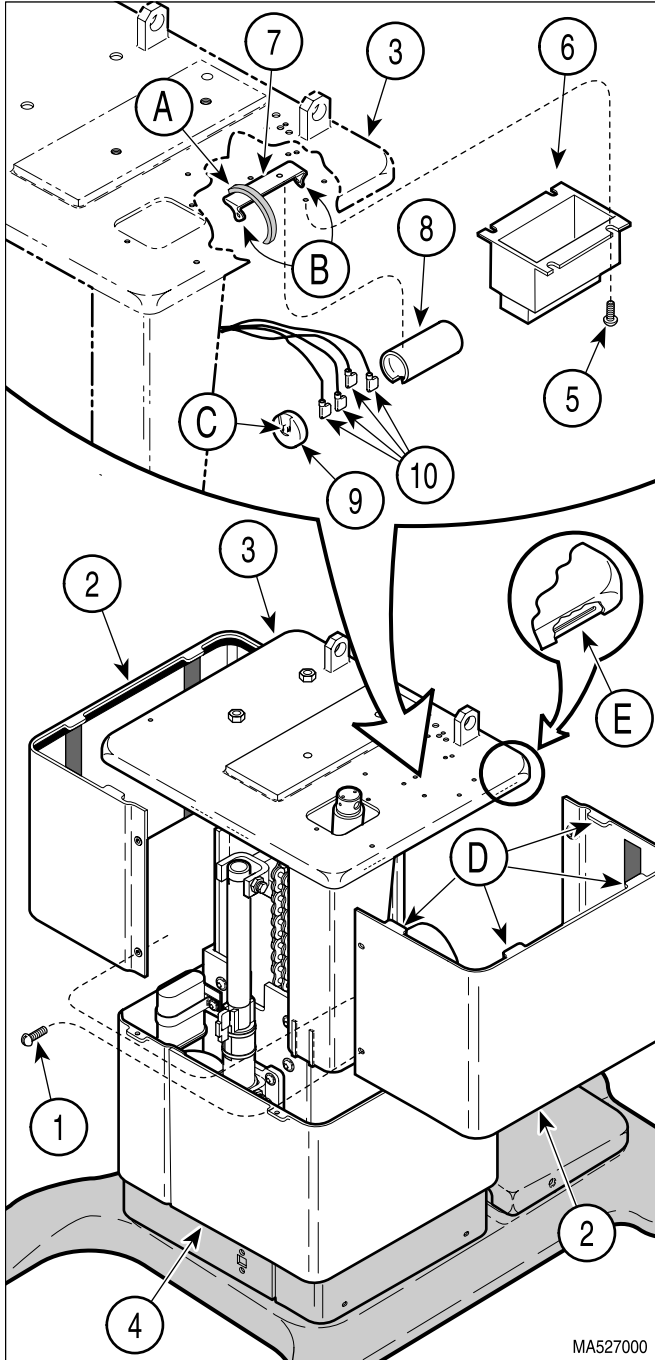

Figure 4-8. Tilt Capacitor Removal / Installation
- (2) Unplug table power cord from outlet receptacle.
- (3) Remove four screws (1, Figure 4-8) and R.H. and L.H. outer shrouds (2) from column adapter weldment (3).